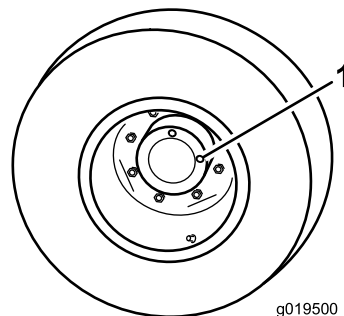

Figure 103
1. With machine on level surface, position the wheel so 1 check plug is at the 12 o'clock position and the other is at 3 o'clock position (Figure 103).
1. Check/drain plug (2)
- Remove the plug at the 3 o'clock position (Figure 103).